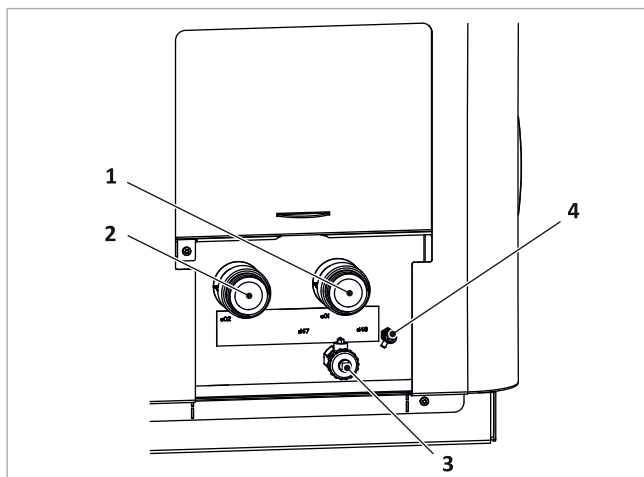

Fig. 18: SolvisLea: Hydraulic connection
2. Remove the gases from the pipe line system on the heating pump by initiating bleeding. See ➔ Fig. 18 (4).